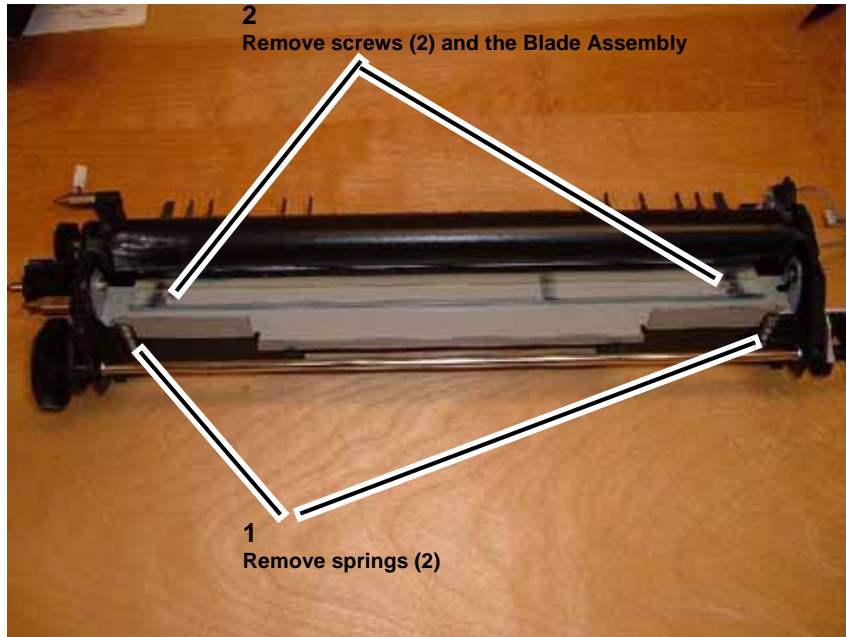

Figure 4 Removing the Blade Assembly
5. Remove the Blade Assembly (Figure 4).